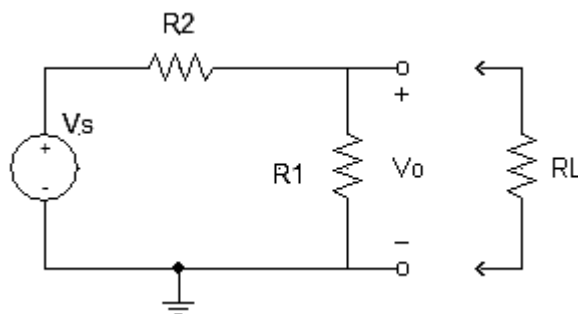

Figure 3-1
1. For the voltage divider of Fig 3-1, find an equation for the current through R1 ( $I_{R1}$ ) in terms of R1, R2, and Vs. Show your work for full credit. (5 points)
For the voltage divider of Fig 3-1 with Vs = 15V, R1 = 10k $\Omega$ , and R2 = 5.6k $\Omega$ , calculate Vo and  $I_{R1}$  (no load connected). Show your work for full credit. (5 points)
1. Build the Voltage Divider circuit of Fig 3-1 on the protoboard with  $V_s = 15\text{VDC}$ ,  $R_1 = 10\text{k}\Omega$ , and  $R_2 = 5.6\text{k}\Omega$ . Before Construction, use a multimeter to measure the actual values of  $R_1$  and  $R_2$ . Initially leave  $R_L$  unconnected (an open circuit).